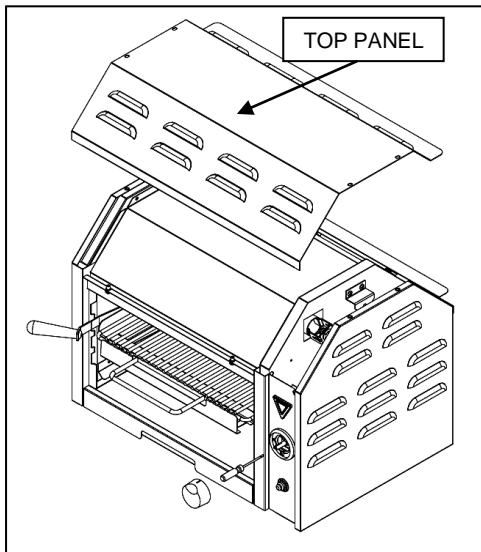

Fig. 1
4. Remove the top panel by removing the (8x) screws along top sides with a Phillips screwdriver. (Fig. 1)